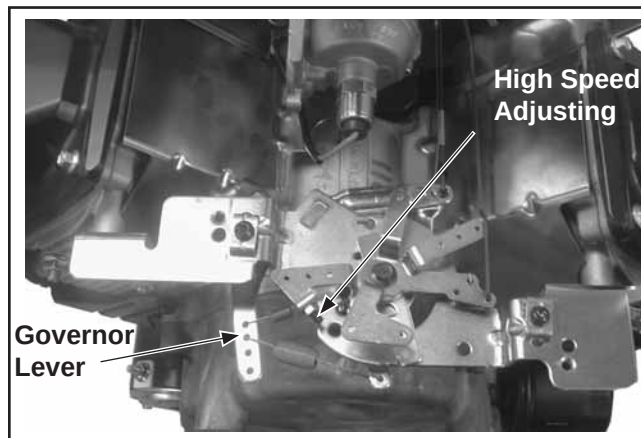

Figure 5-34. Governor Controls and Linkage (External).
- The regulating pin contacts the tab on the cross shaft causing the shaft to rotate. One end of the cross shaft protrudes through the crankcase. The rotating action of the cross shaft is transmitted to the throttle lever of the carburetor through the external linkage. See Figure 5-34.
Make this adjustment whenever the governor arm is loosened or removed from the cross shaft. See Figure 5-34 and adjust as follows:
Governor sensitivity is adjusted by repositioning the governor spring in the holes of the governor lever. If speed surging occurs with a change in engine load, the governor is set too sensitive. If a big drop in speed occurs when normal load is applied, the governor should be set for greater sensitivity. See Figure 5-34 and adjust as follows:
High Speed (RPM) Adjustment (Refer to Figures 5-34 and 5-35.)